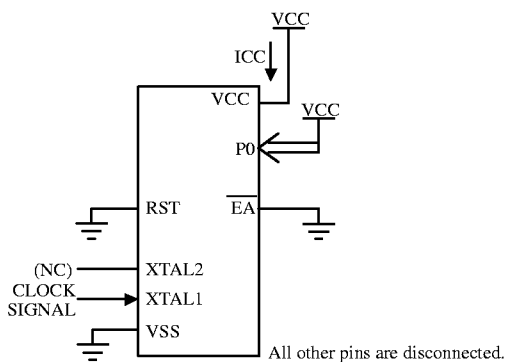

Figure 11 ICC Test Condition, Idle Mode
- Idle I_{CC} is measured with all output pins disconnected; XTAL1 driven with TCLCH, TCHCL = 5ns, V_{IL} = V_{SS} + 0.5V, V_{IH} = V_{CC} - 0.5V; XTAL2 N.C.; Port 0 = V_{CC}; $\overline{\text{EA}}$ = RST = V_{SS} (see Figure 11).